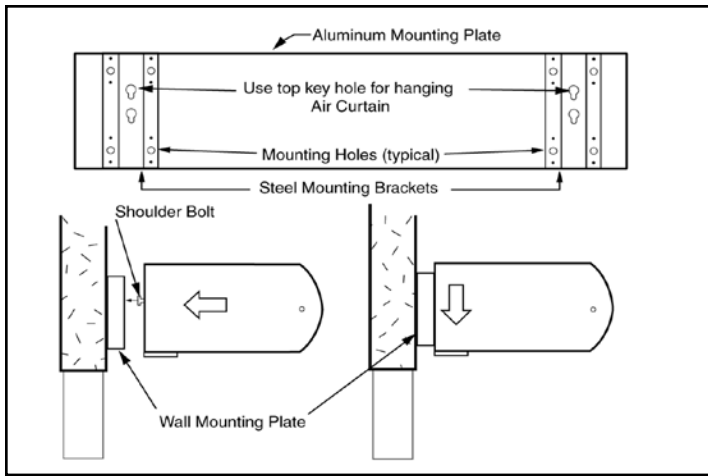

FIGURE 4 - Installing Air Door on Wall Mounting Plate
- I. There are two sets of keyhole slots on the wall mounting plate. In low overhead installations, the air curtain may be staged in the lower keyholes to provide clearance for electrical wiring and then moved to the higher keyholes after completion. Raise the air curtain with the discharge opening facing down toward the floor. While holding the air curtain level, slide the heads of the shoulder bolts into the larger hole of the keyhole slots of the mounting plate. Lower the air curtain into place, keeping both ends level, allowing it to rest flush with the mounting plate. See Figure 4.